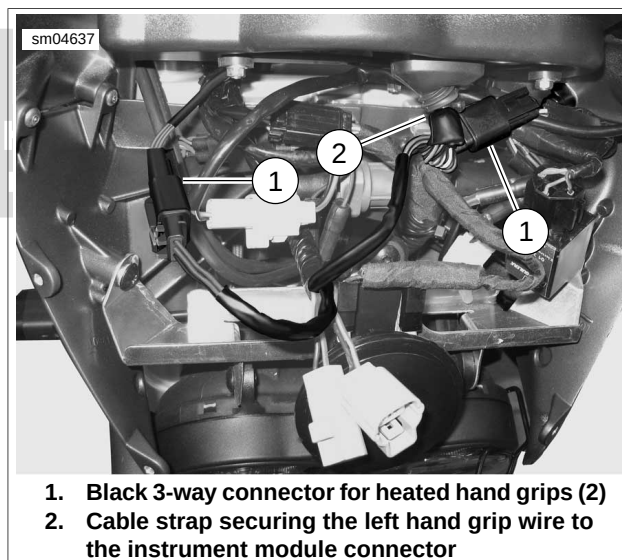

Figure 7-34. Heated Hand Grip Connections and Cable Strap
7. See Figure 7-34. On the left side, install a cable strap securing the hand grip wire to the instrument module connector under the left hand side of the instrument cluster.